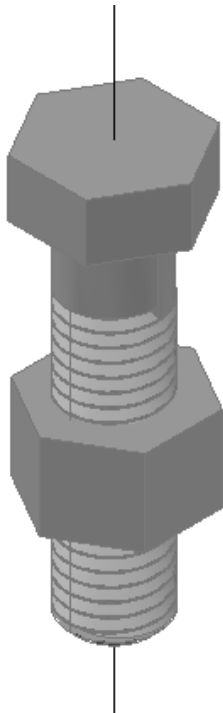

Figure Step 23A
Step 23 Using the centerlines, copy the solid models to create an assembly solid model. After you assemble the two parts by snapping to the centerlines, with Ortho enabled, move the nut, by eye, to locate it vertically. Do not union the bolt and nut together. (Figure Step 23A and 23B)